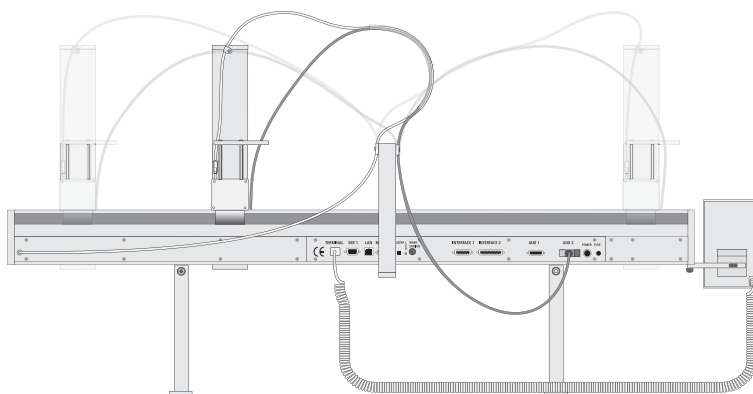
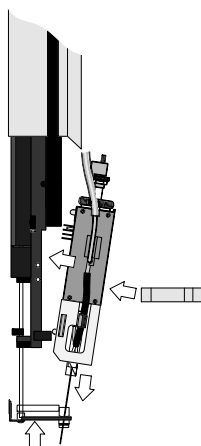

Figure 11. Checking Movement of Injection Unit
Figure 23.
Move the arm manually back and forth and check that the tube or electrical cable does not collide or catch with any part of the PAL System. See Figure 11 for illustration.
1. Move the PAL Injection Unit manually to the side to allow free movement of the syringe slider. Lower the syringe slider as shown in Figure 11 in order to gain access to install the syringe/heater assembly. Lift the lower needle guide, sliding it into the upper needle guide. Insert the syringe needle tip and match the magnetic pins of the syringe holder with their corresponding positions on the syringe slider. Let the lower needle guide return slowly and make sure the needle tip does not catch on the guide. See Figures 23 and 24.